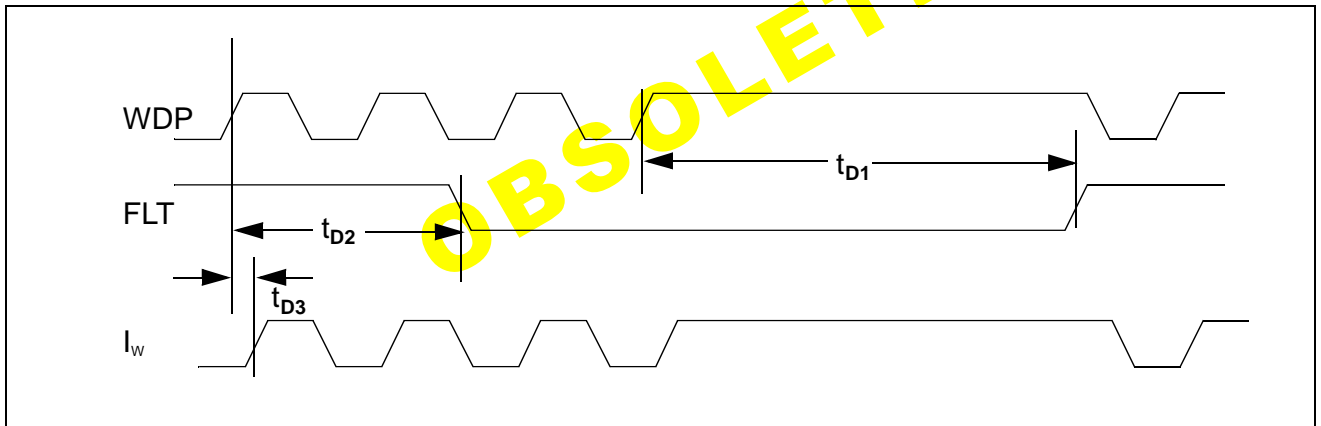

Figure 11 Write Mode Timing Diagram
1. See Figure 11 for a write mode timing diagram.